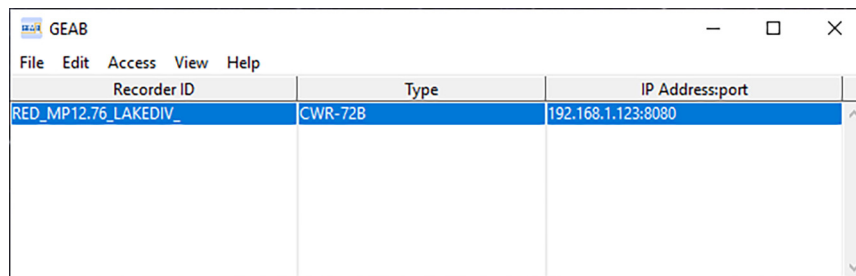

Figure 7: GEAB Window - Recorder Selected
1. Single-click the Recorder to be removed. It will be highlighted as shown in Figure 7 on page 16.